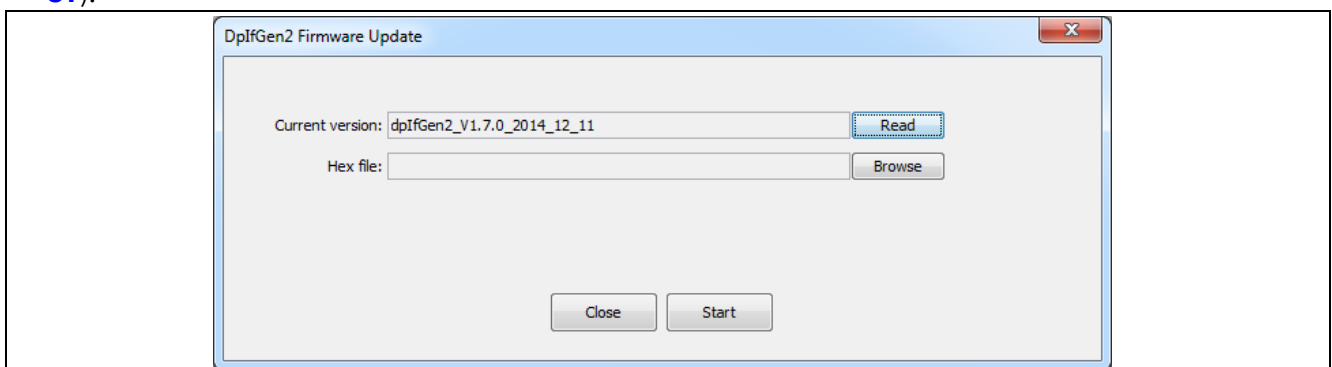
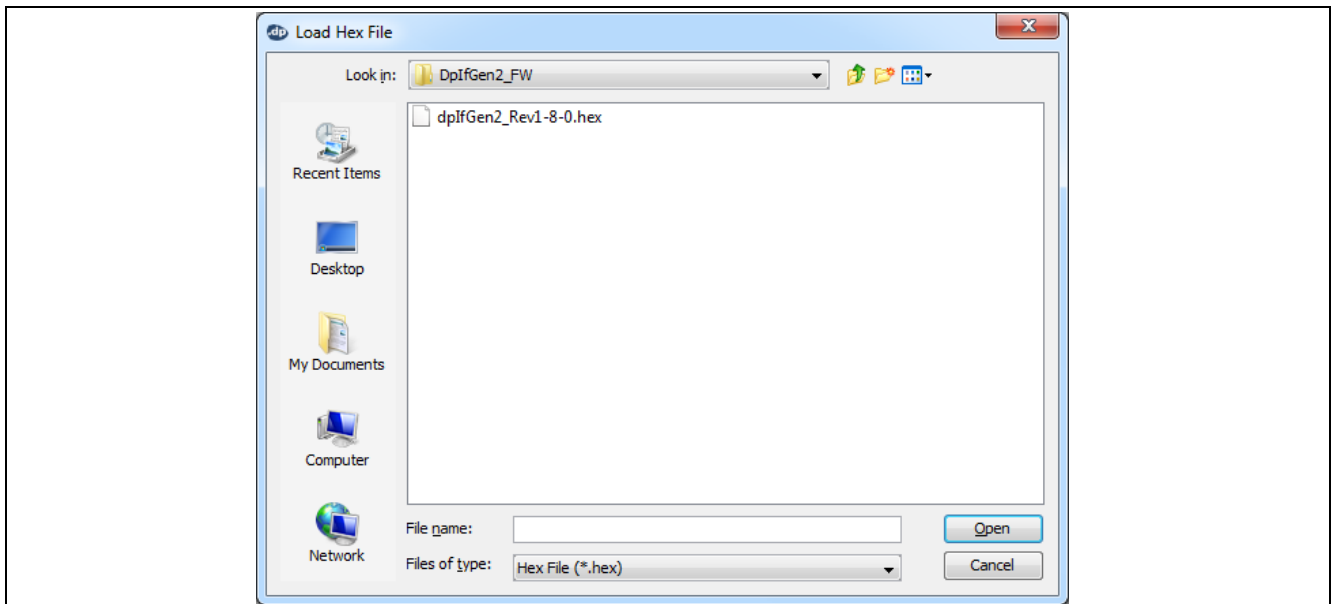

Figure 37 DpIfGen2 Firmware Update – Read Current Firmware Version
Figure 38 DpIfGen2 Firmware Update – The New hex File Selection
2. The existing firmware version (Current version) can be read by pressing the “Read” button (see Figure 37).
3. Find a hex file by pressing the “Browse” button (see Figure 37) and select the desired hex file to be downloaded onto the interface board (see Figure 38).